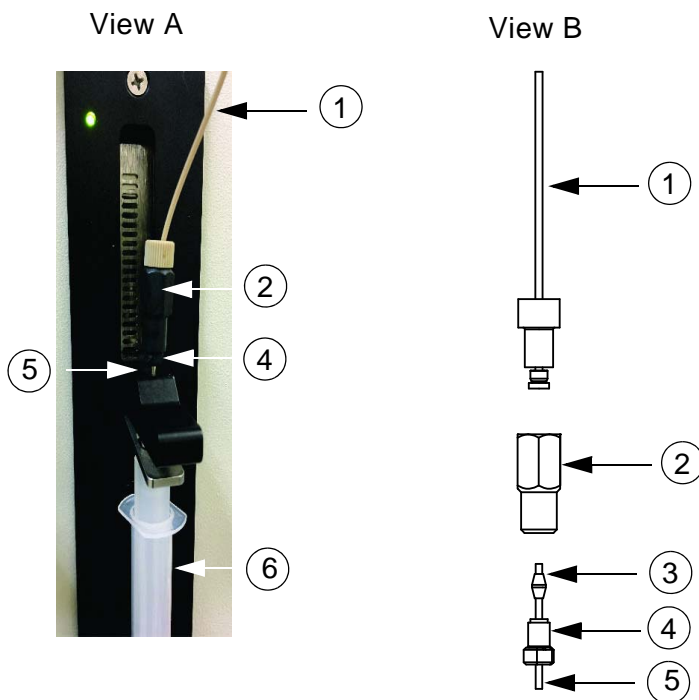

Figure 5-11. Plunger Assembly (Dionex AutoTrace 280 PFAS)
1. Use a 3/8-in open-end wrench to secure the coupler (see Figure 5-11). Remove the PEEK nut on the tubing assembly by turning the nut counterclockwise.
5. Unscrew the plunger assembly (see Figure 5-11). Pull down on the assembly to remove it from the cartridge holder.
3. Make the tubing connection onto the stainless steel tubing on the plunger lever as shown in Figure 5-11.